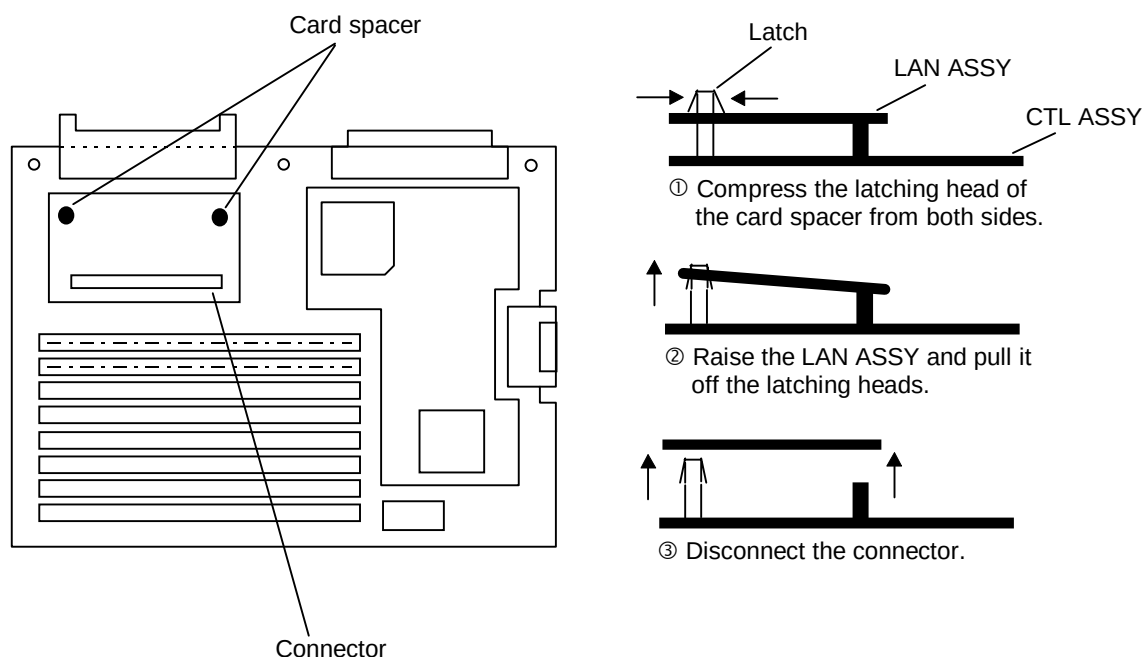

Figure 14.1 Replacing LAN ASSY (1)
② Open the rear cover and remove CTL ASSY. (See RW-REP0370.)
③ Pinch the latching heads of card spacers with needle-nose pliers etc. , then pull the LAN ASSY up with care not to touch with surrounding parts. (See Figure 14.1.)